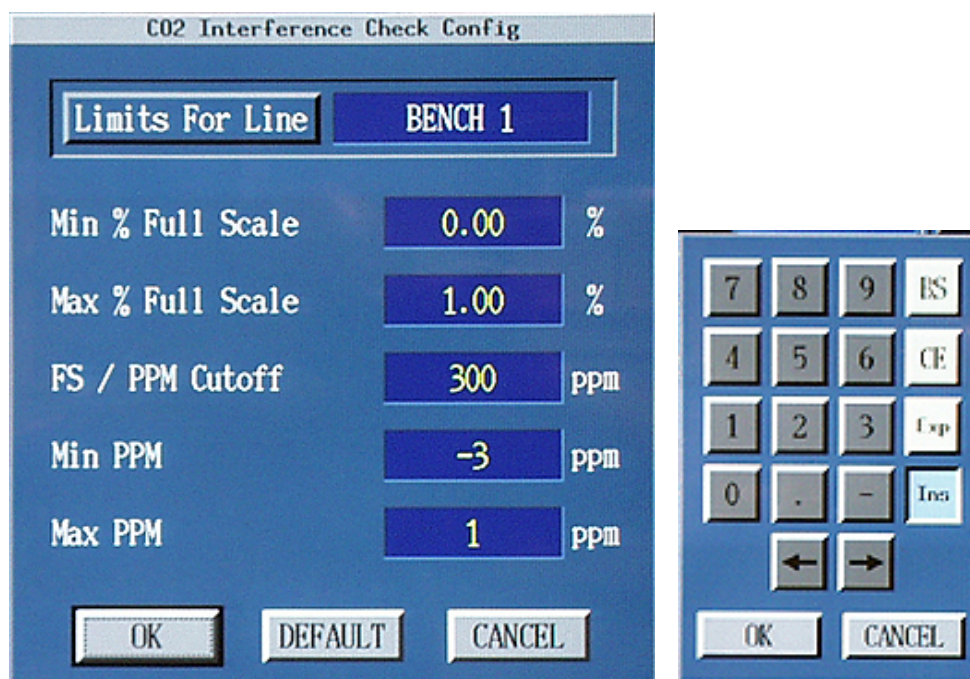

Figure 7
- 104 Click on “CO₂ Configuration” button. See Figure 7.
- 105 The “CO₂ Interference Check Config” screen will appear. See Figure 7.